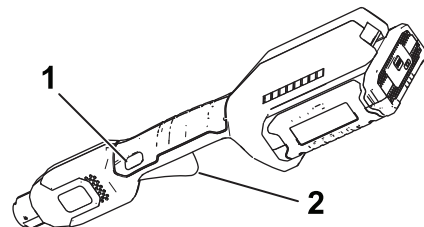

Figure 7
4. To start the trimmer, press the lock out button, then squeeze the variable-speed trigger (Figure 7).